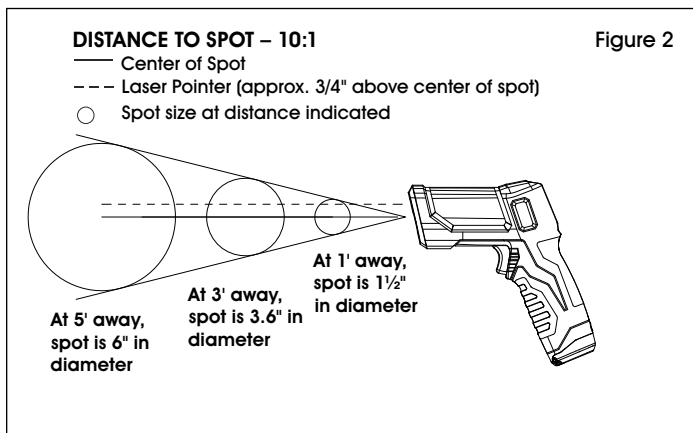

Figure 2
**NOTE:** The object should be larger than the spot being scanned. If not, readings will be affected. See Figure 2 for necessary object size.